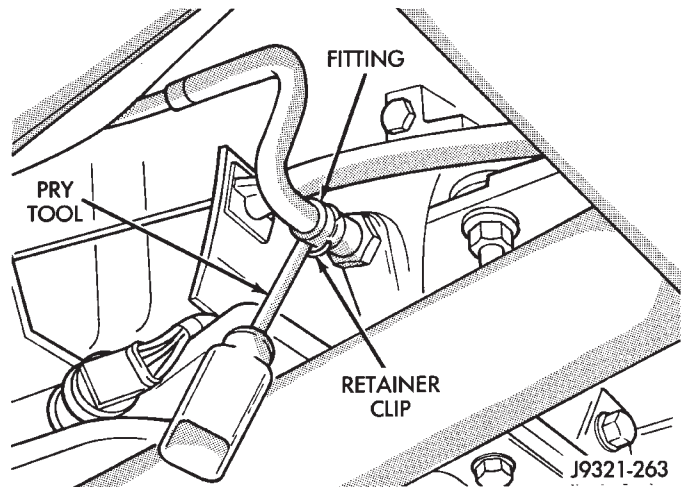

Fig. 21 Removing Retainer Clip To Release Cooler Line
(1) If cooler lines will be disconnected at main cooler in radiator, remove splash shield under radiator for access to fittings.
(2) Pry wire retainer clips off fittings with small screwdriver (Fig. 21). **Discard clips as they are NOT reusable after being removed.**
(3) Pull cooler line out of fitting.
(4) Remove and retain plastic insert from each fitting.